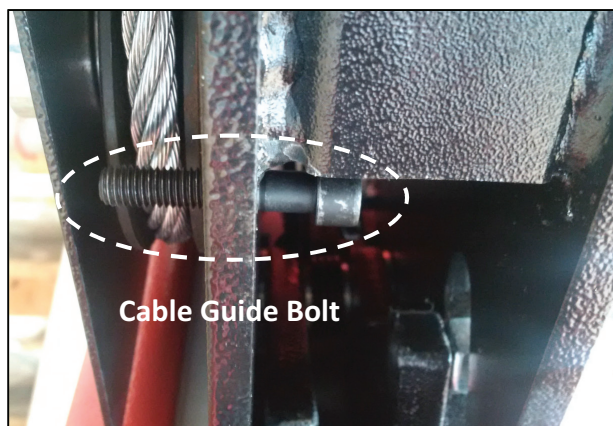

Fig. 8
19. Install Cable Guide Bolts (#21A) thru the side of the Crossbeam Latch Plates at each end, as illustrated in Fig.8 below. One Guide Bolt will be installed at end of both Crossbeams.